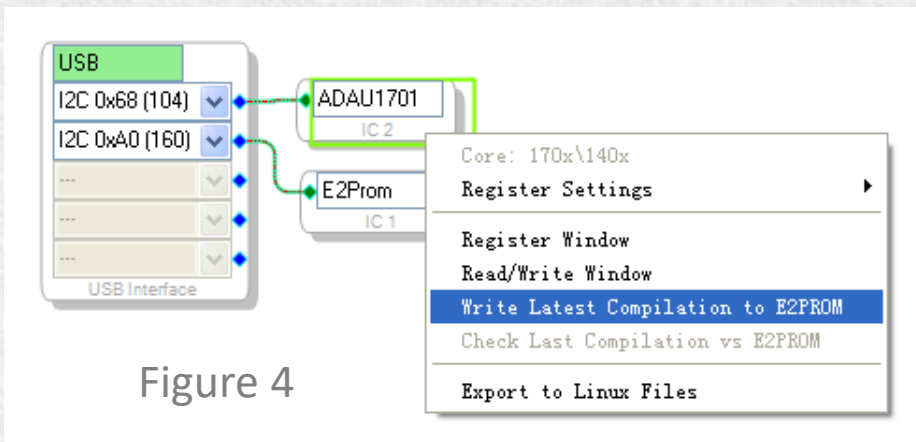

Figure 4
3. Make sure the SW of ICP3 is at ①, and right-click the “ADAU1701” and select “Write Latest Compilation to E2PBOM” to download the program (see figure 4), then you will see a window, choose the “I2C” on the right and click “OK” (see figure 5).